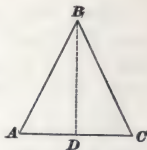

FIG. 56.
**SOLUTION.**—Draw the base as shown in Fig. 56; it will be an equilateral triangle, all of whose sides are 6 inches long.